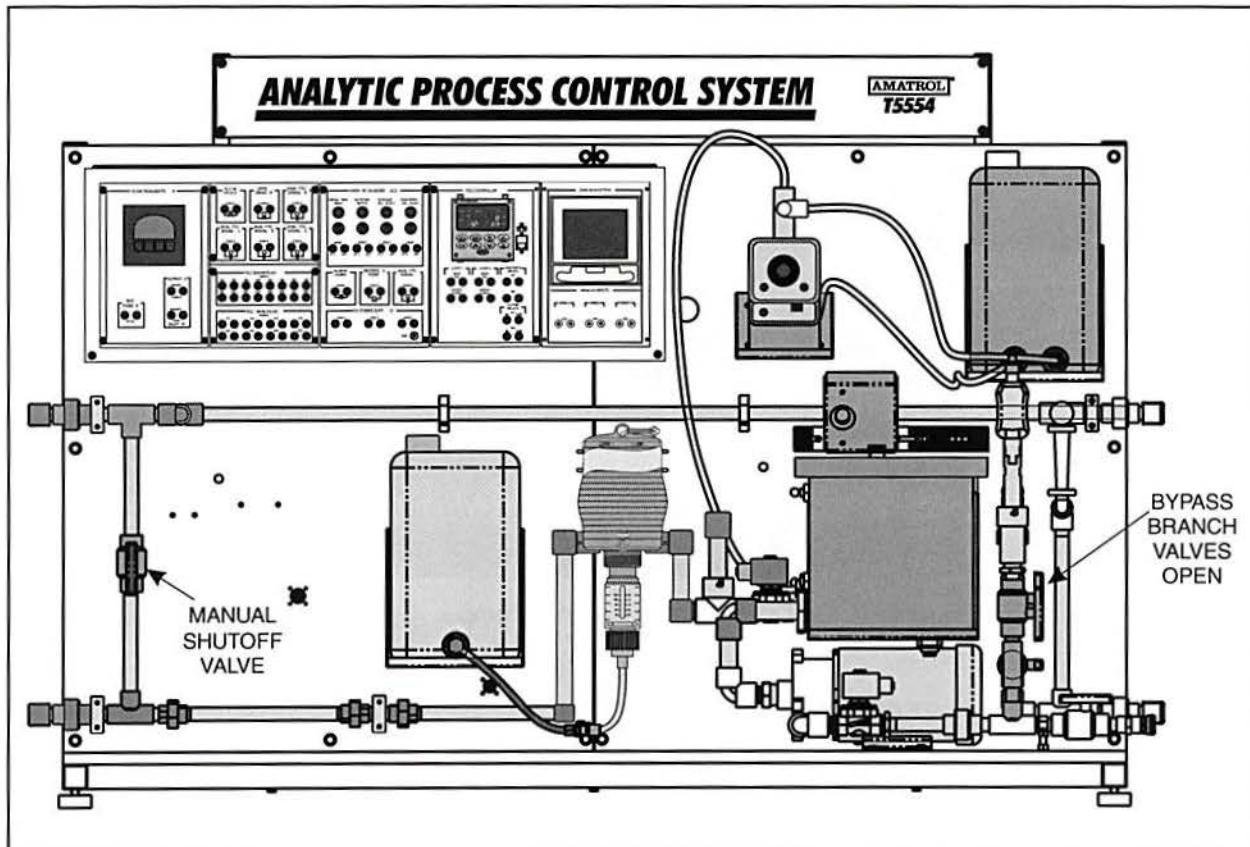

Figure 53. Manual Shutoff Valve in the Main Process Loop
- A. Make sure the manual shutoff valve in the main process loop, shown in figure 53, is in the open position.